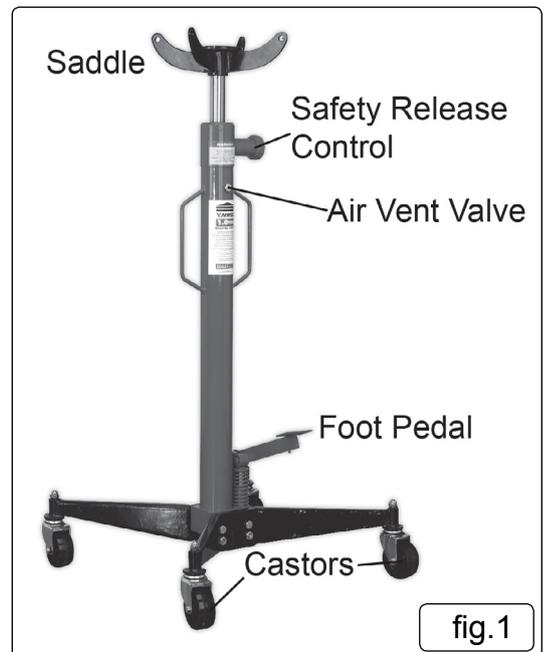

fig.1
- 4.4. Remove the transportation oil plug and replace it with the operating plug, identified as the Air Vent Valve in fig.1.